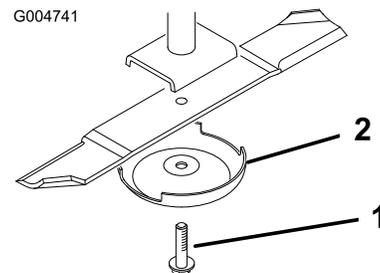

Figure 144
4. Grasp the end of the blade using a rag or thickly padded glove and remove the blade bolt, anti-scalp cup, and blade from the spindle shaft (Figure 144).